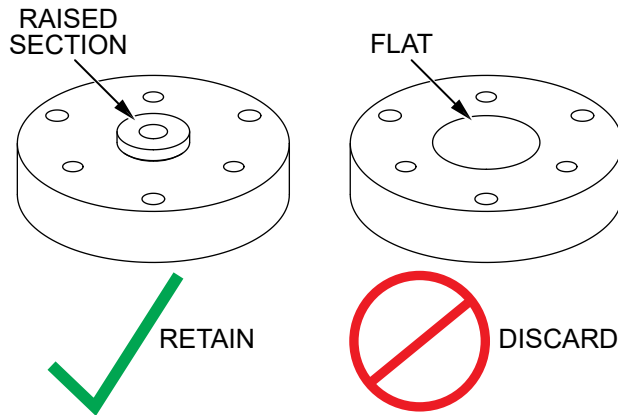

Figure 16. Existing Coupler Inspection
5. Inspect the existing coupler. If it has a raised area as shown in Figure 16, retain the coupler and continue to the next step. If it does not have a raised area as shown, discard the coupler and use the new, improved coupler (P/N 23420) for the next step.